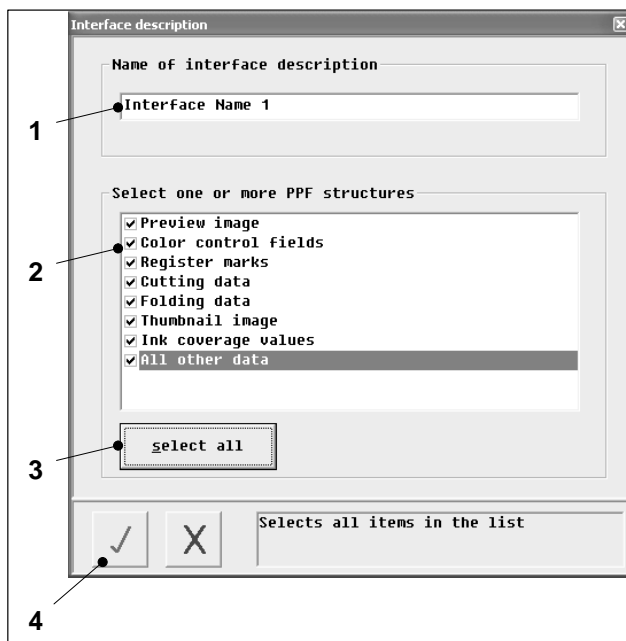

Fig. 45 The *Interface description* dialog window
2. Click on the *Create new interface description* button (Fig. 44/1). The *Interface description* dialog window shown in Fig. 45 appears. Click on Fig. 44/2 if you wish to edit an interface description. If you wish to delete an interface description, click on Fig. 44/3.